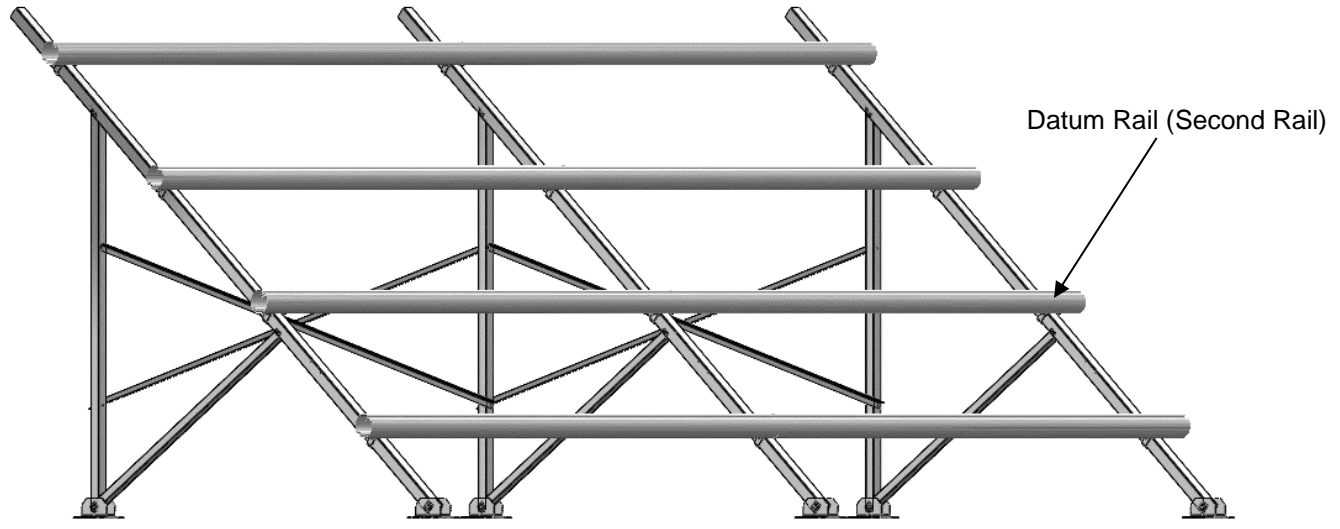

Figure 14: Rail Runs
- g. Repeat the steps 'b', 'c', 'e', and 'f' for the other three rails runs (1 rail run below the datum rail run and 2 rail runs above the datum rail run). The second rail run (datum rail run) can be used as a support the upper rail runs during assembly (Figure 14).